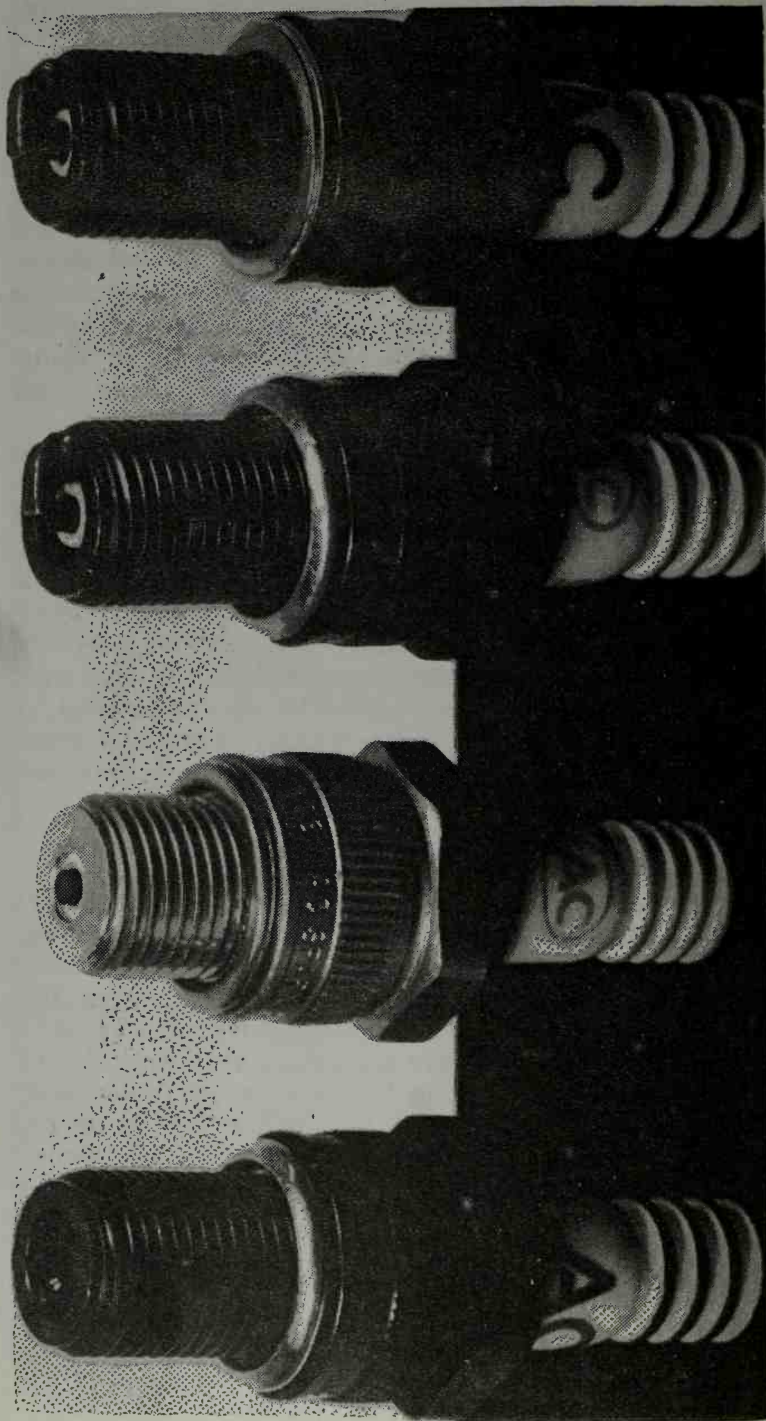

Fig. 3-3. Four AC spark plugs showing the most popular gap designs.
There are many styles of spark plugs, as shown in Fig. 3-3. Reading from left to right in the photo, the first type is rarely seen except at race tracks; this pin-gap type is used in ultrahigh compression engines where there's very little room in the combustion chamber. The second from left is the plated plug, surface-gap type; there isn't a side electrode as such—the spark jumps from the insulator to the grounded shell. The second type is found in two-cycle engines with capacitance discharge (CD) ignition. The third plug is the clipped or J-gap, used in many small engines. Because the side electrode extends only halfway across the center electrode,